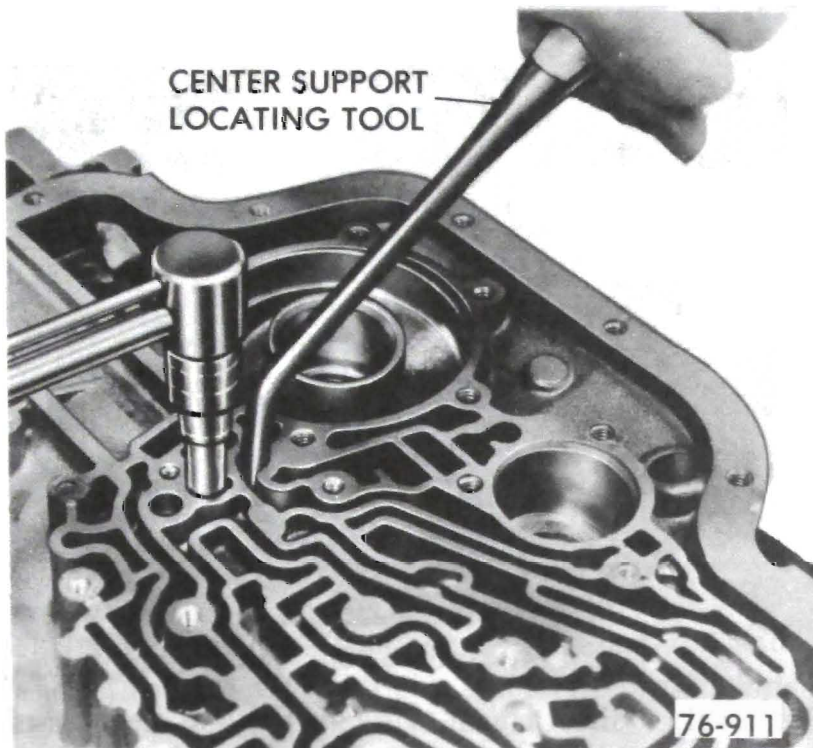

Figure 76-251
11. Install case to center support bolt by placing the center support locating tool J-23093 into the case direct clutch passage, with the handle of the tool pointing to the right as viewed from the front of the transmission and parallel to the bell housing mounting face. See Figure 76-251.